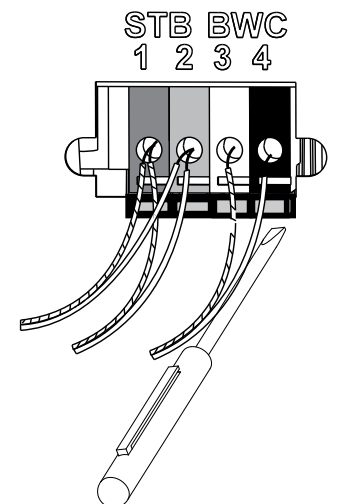

FIG. 2
6. Remove wall control and Safe-T-Beam® wires from terminal block FIG. 2. Use small common screwdriver to press in on tabs while gently pulling wires from block. Mark wires to help facilitate replacement.